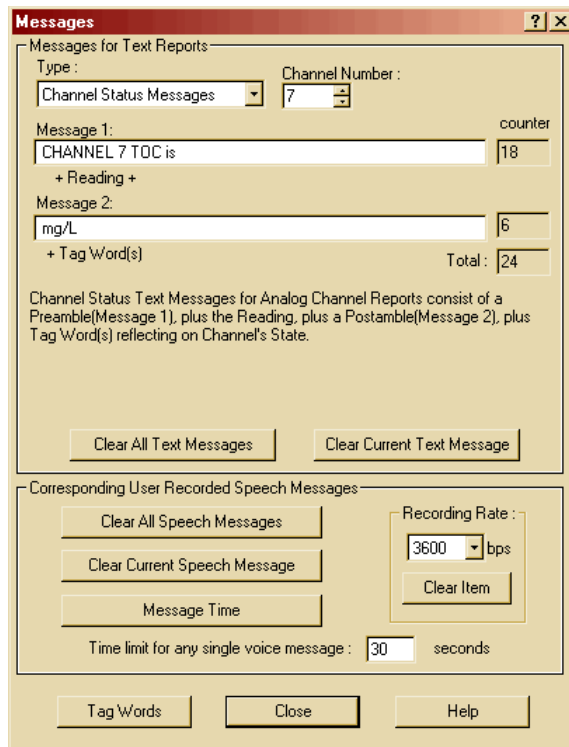

Figure 45: Messages, Channel 7
44. Change the **Channel Number** to **7** and edit it as shown Figure 45. Then click the **Close** button.